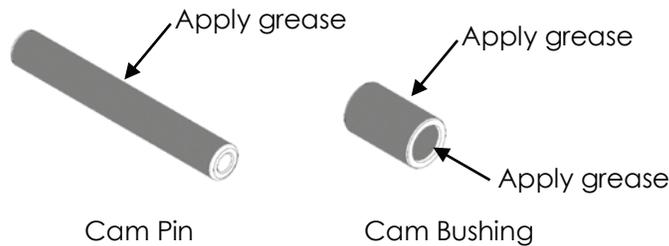

Fig.15
10. Apply NYE 368 RHEOLUBE or equivalent grease to the cam pin, cam bushing and clevis cam driver hole (see Fig.15).